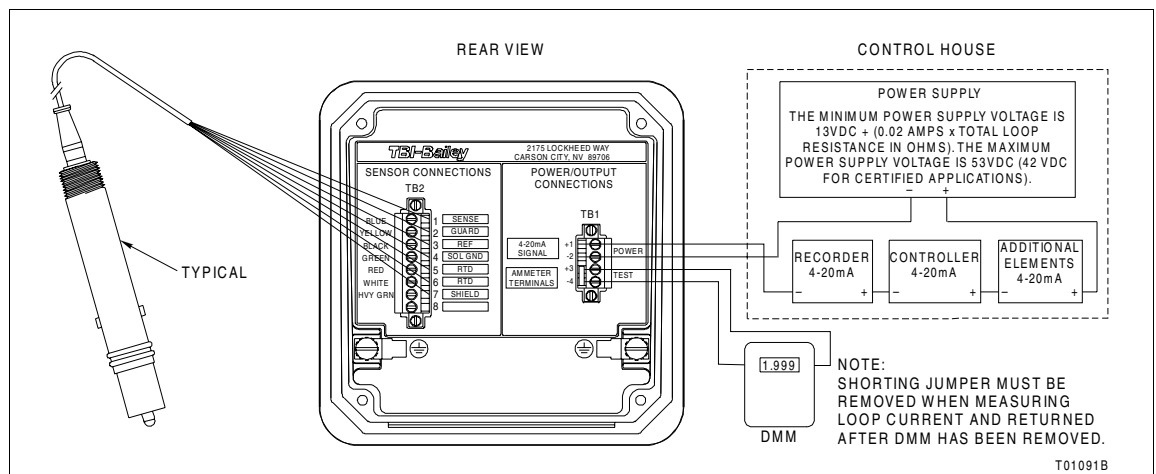

Figure PR13-1. Output Calibration Setup
2. Use the small bladed screwdriver to remove the shorting jumper from the test terminals, TB1-3 (+) and TB1-4 (-), as shown in Figure PR13-1.